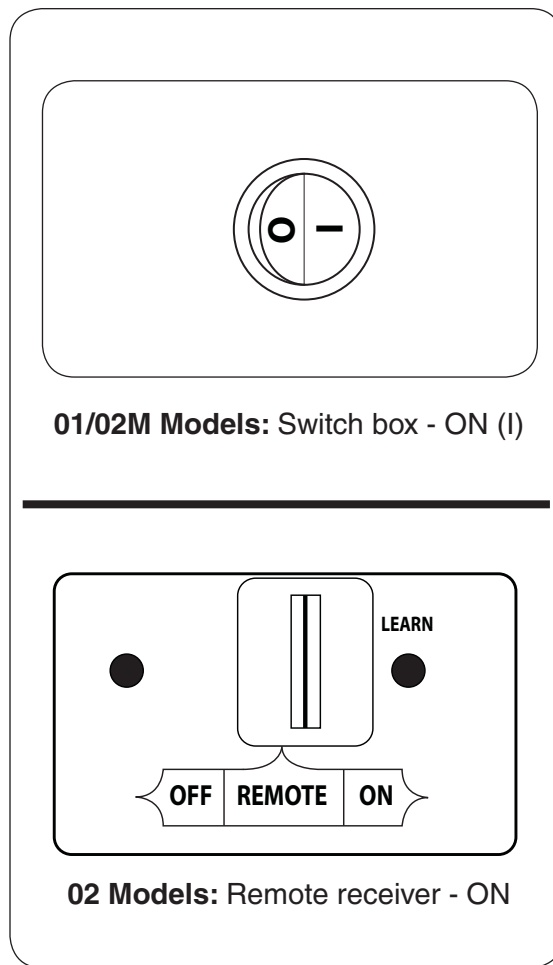

Fig. 31-1 Manual lighting
1. **01/02M Models:** Locate the ON/OFF switch at the front of the switch box. Press the switch to the **ON (I)** position. See Fig. 31-1.
02 Models: Locate the 3-position switch on the remote receiver (see Fig. 31-1), and slide the switch to the **ON** position.